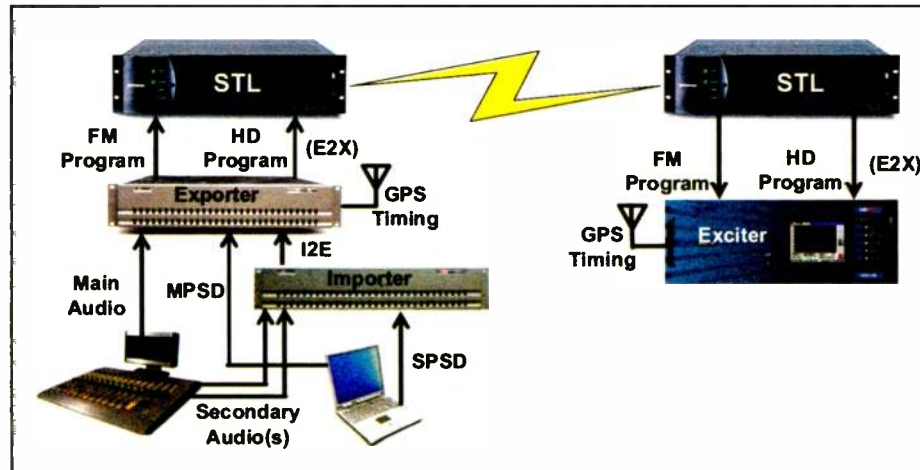

Fig. 5: Importer and Exporter at Studio (Scenario 4)
**Scenario 4:** In most cases, the most effective and bandwidth-efficient solution is to place both the Importer and the Exporter at the studio and feed the E2X over the STL to the transmitter site, and we find that iBiquity Digital recommends this configuration for most HD installations (Fig. 5). Yet, it is precisely this transport requirement that presents the greatest challenge in the design of the STL. Many implementations of the E2X use UDP, a one-way protocol that does not allow for the resending of lost or errored packets. iBiquity Digital reports from their lab testing experience that IP packet loss must be less than 10-5 for successful performance.